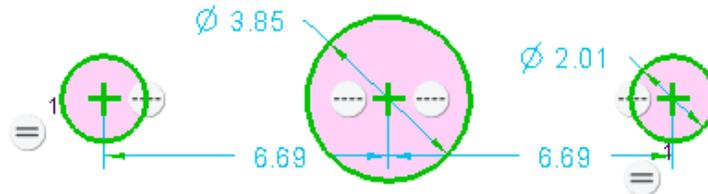

Figure 3-37 Three circles with weak dimensions and constraints
1. Choose the **Center and Point** tool from the **Circle** drop-down. Draw the circles in a horizontal line, as shown in Figure 3-37.